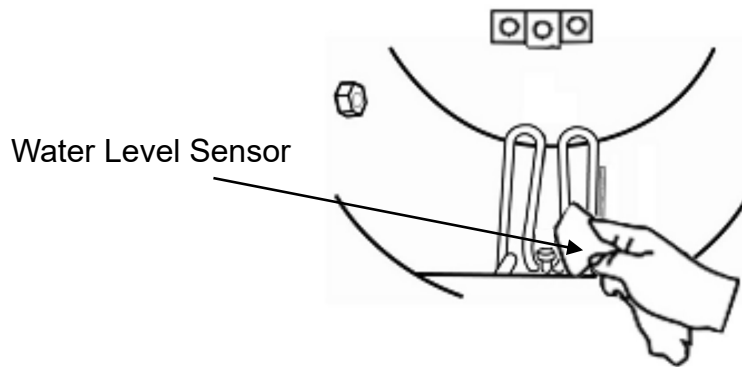

Figure 50
- Use the non-corrosive cleaner and stiff bristled brush or sponge to clean the water level sensor at the front of the chamber as Figure 50.